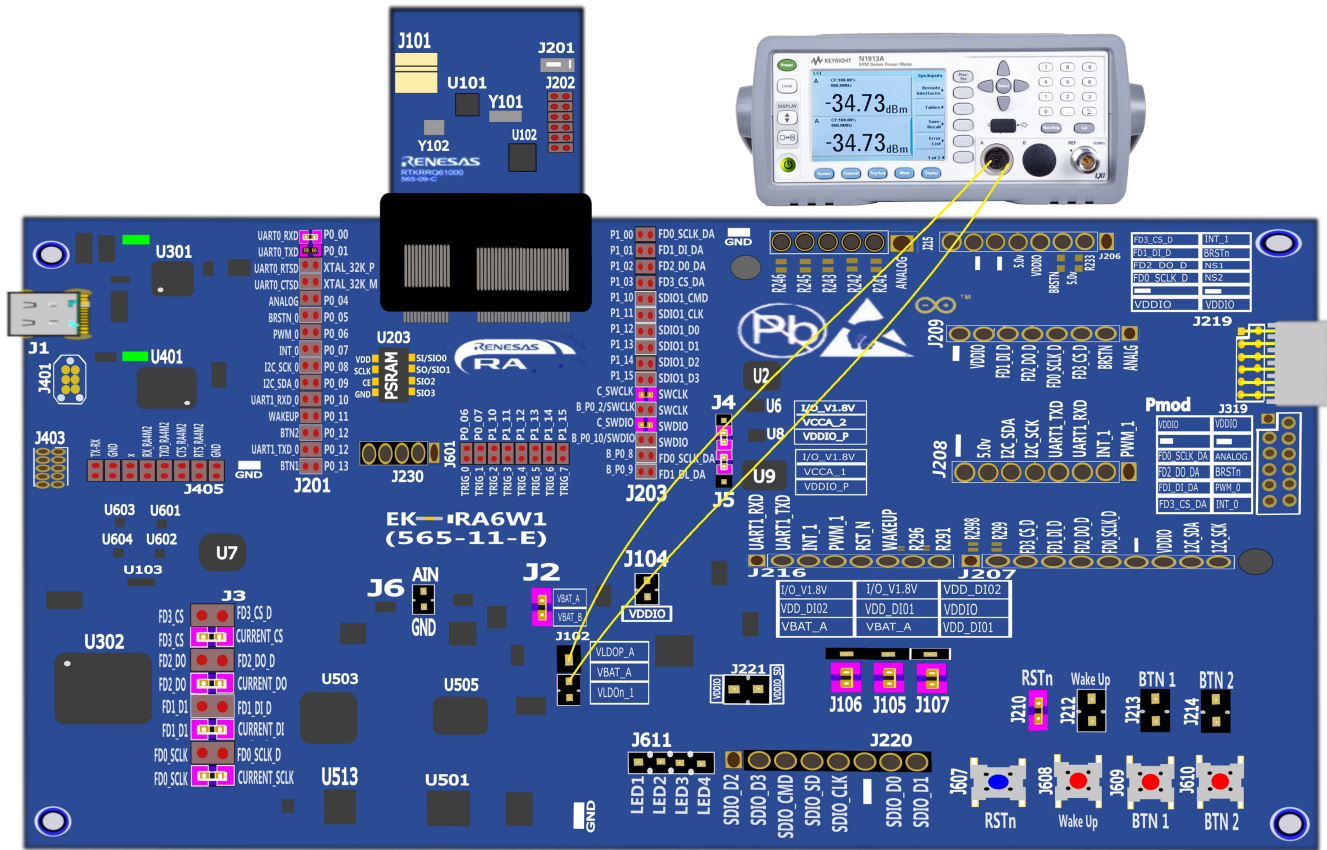

Figure 53. Jumper connections between pins
2. Connect jumpers between the pins and connect the current measurement points to the power analyzer, see Figure 53.